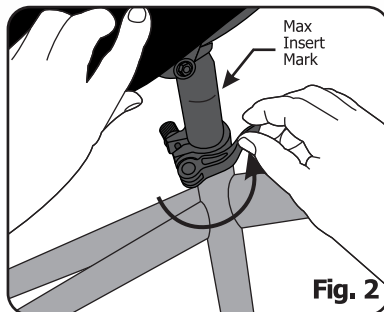

Fig. 2
Attention! Always insert seat post into bicycle frame above the **minimum mark** and below the **maximum mark**, see **Fig. 2**. Incorrect seat post insertion outside of maximum - minimum marks will cause bicycle damage or injury.
2. Hold the saddle aligned in the forward position at the desired seat height. Close quick release counter clockwise see (Fig. 2).
3. As shown in **Fig. 2** assemble the V-Brake by (1) squeezing by hand the two lever arms together. Using other hand locate the (5) guide pipe into retaining plate slot of the left lever arm. Once the guide pipe is in place release the two lever arms.